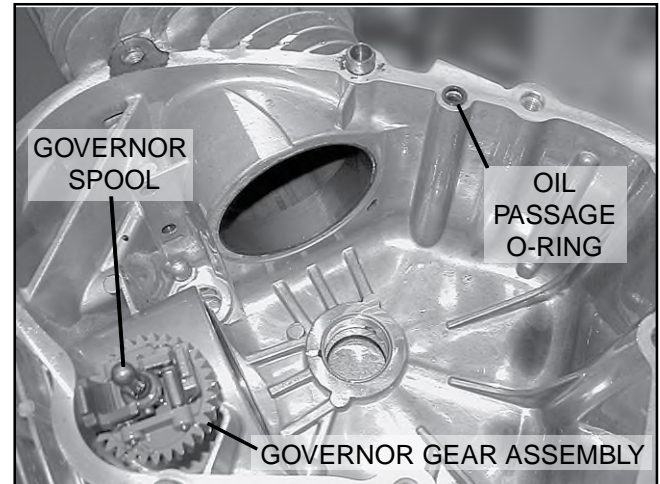

Figure 4-1. Governor Gear Assembly and Spool
2. Be sure that the new oil passage o-ring is in place (see Figure 4-1).